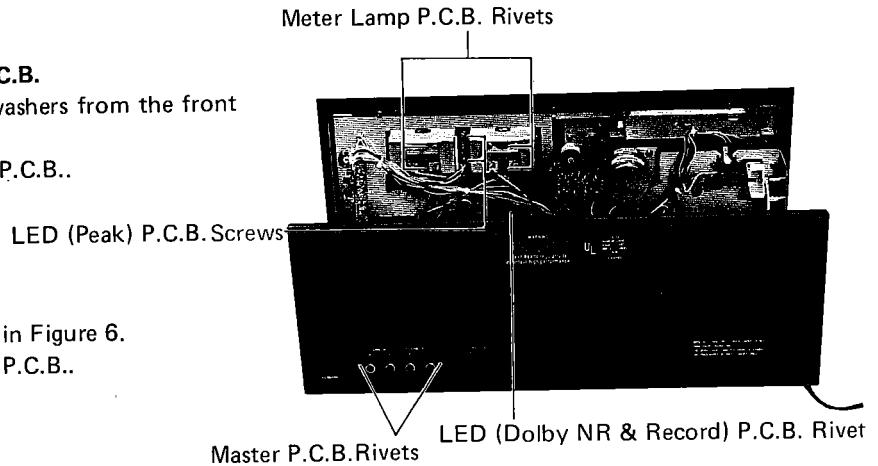

Figure 6
- (1) Remove two screws as shown in Figure 6.
- (2) Disconnect all wires from the P.C.B..
- (1) Remove one rivet from the P.C.B. as shown in Figure 6.
- (1) Remove four rivets from the P.C.B. as shown in Figure 6.
- (2) Disconnect all wires from P.C.B..